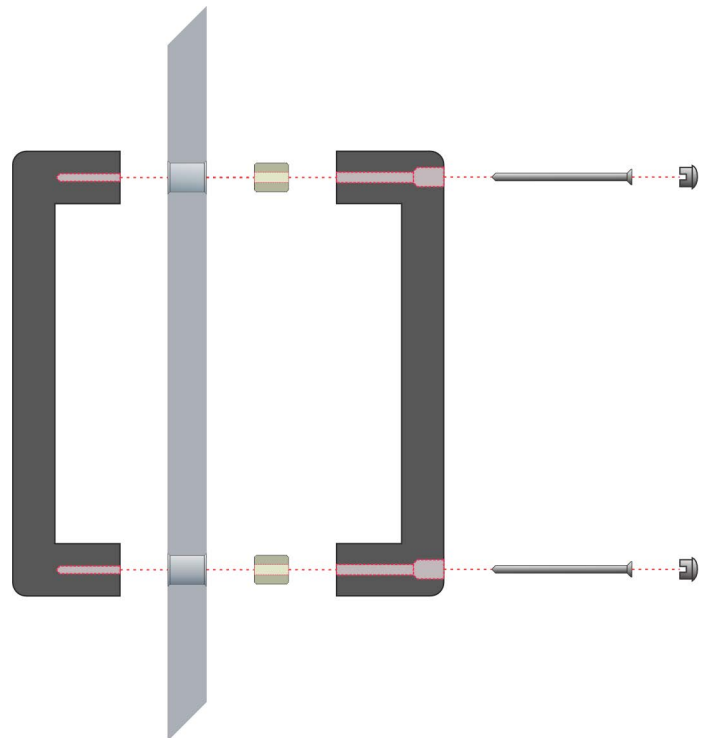

Figure 16. Installing Door Handle
40. Arrange the door handles and hardware as shown in Figure 16. Screws and cap are installed from inside the door.
43. Using the two (2) M4 x 100mm Phillips head screws included in the kit, attach the door handles to the glass door.